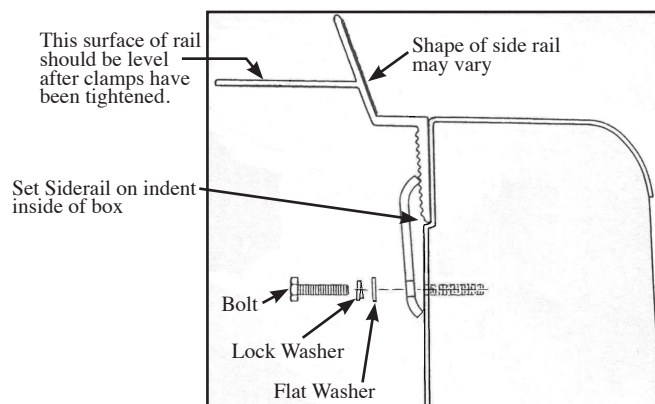

FIGURE 1
1. This kit comes with 4 long clamps and 2 short clamps that attach to existing threaded holes at front, middle, and rear of box. Place cover side rail above indentation along inside of box wall. **(SEE FIGURE 1).**